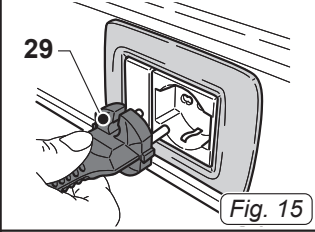

Fig. 15
- Insert the plug (29 Fig.15) into the socket.
- Remove the plug (29 Fig.15) from the electrical socket.